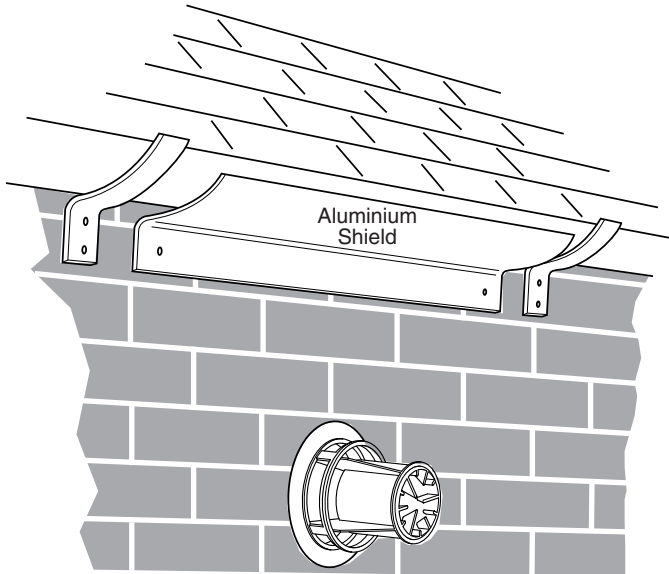

Fig. 15
2. If the terminal is fitted within 1 metre of a plastic gutter, within 500mm of a painted eave or a painted gutter, an aluminium shield of at least 1 metre long should be fitted to the underside of the gutter or painted surface. An air space of 5mm should be left between shield and gutter (Fig. 15).